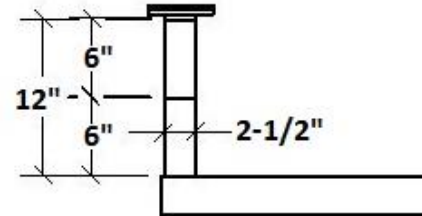

FIGURE 19 : MAXIMUM HEIGHT OF EXTENSION SOCKETS
6. NEVER EXCEED 12" HIGH OF EXTENSION SOCKETS. SEE **FIGURE 19**.